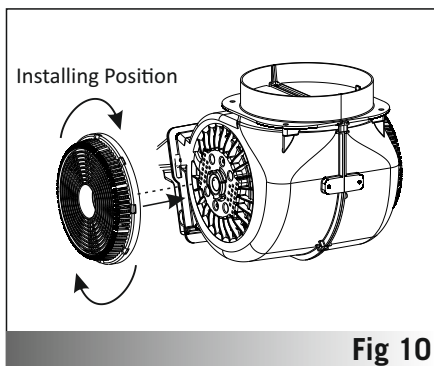

Fig 10
- Charcoal filters are installed onto both sides of the fan as shown in **Figure 10** by turning 10 degrees clock-wise.